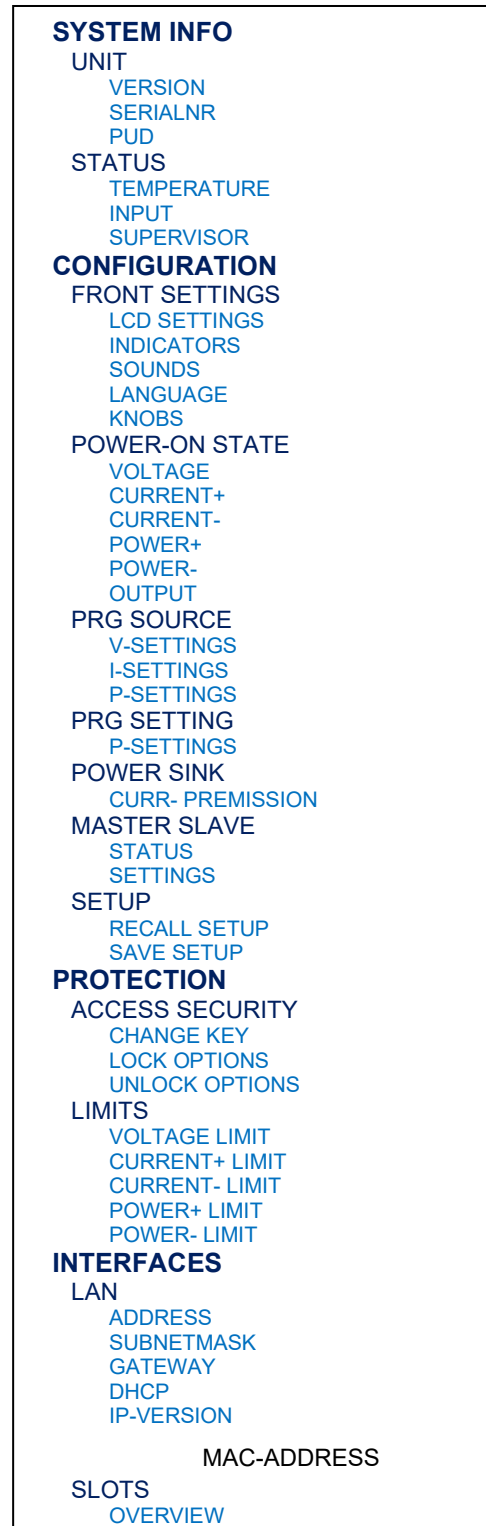

Figure 8.8: Menu tree structure.
- The overview in Figure 8.8 shows the tree structure of the main menu. Not all items are already implemented in the present firmware package. Regularly check the Delta Elektronika website for new releases. The unit can be updated with the latest package via the web interface.